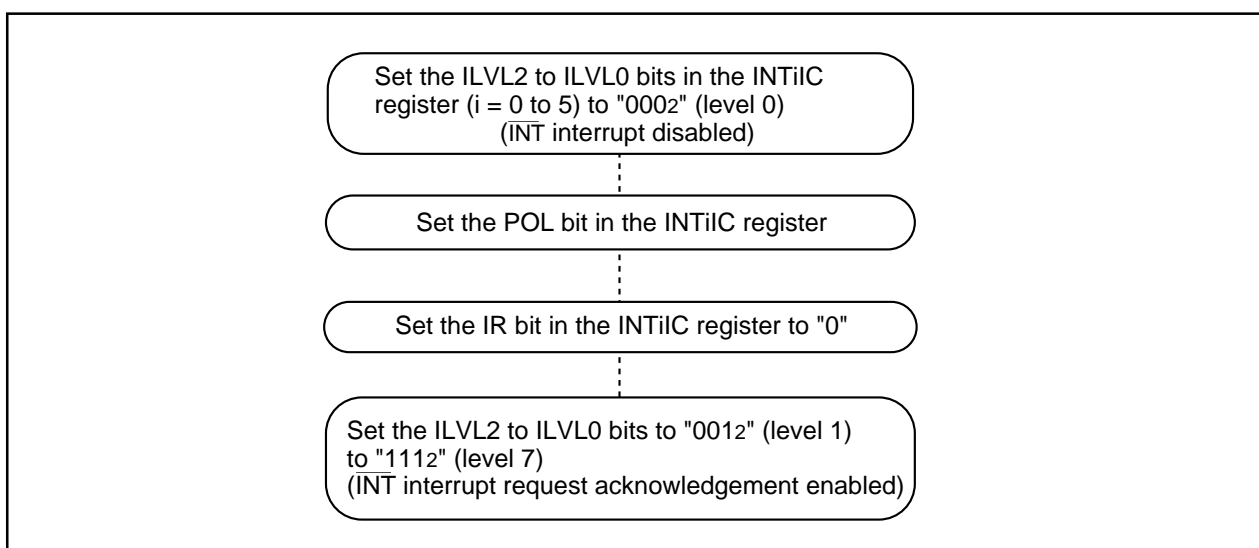

Figure 27.3 Switching Procedure for $\overline{\text{INT}}$ Interrupt
- The IR bit setting may change to "1" (interrupt requested) when switching the polarity of the $\overline{\text{INT}}0$ to $\overline{\text{INT}}5$ pins. Set the IR bit to "0" (no interrupt requested) after selecting the polarity. Figure 27.3 shows an example of the switching procedure for the $\overline{\text{INT}}$ interrupt.